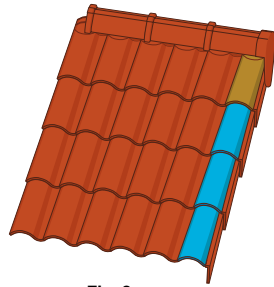
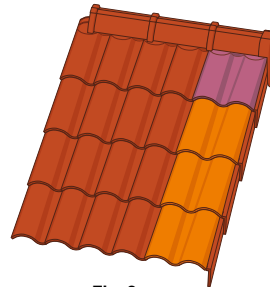

Fig. 2
Fig. 3
4. The right section (vertical terminating end) of the roof can be finished by using either a Half (1/2) Tile (**Q16**) (**fig.2**) or a Double Tile (**Q33**) (**fig.3**).
5. For a faster installation and extra ridge ventilation, an Under Ridge Tile (**Q70**) (**fig.2**) and/or a Double Under Ridge Tile (**Q71**) (**fig.3**), is recommended when reaching the ridge line.